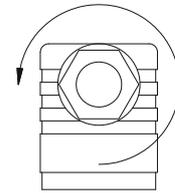

Fig. 9
- ↖ Loosen the screwed cable gland ⑤ M16x1,5 (⇒ Fig. 9).